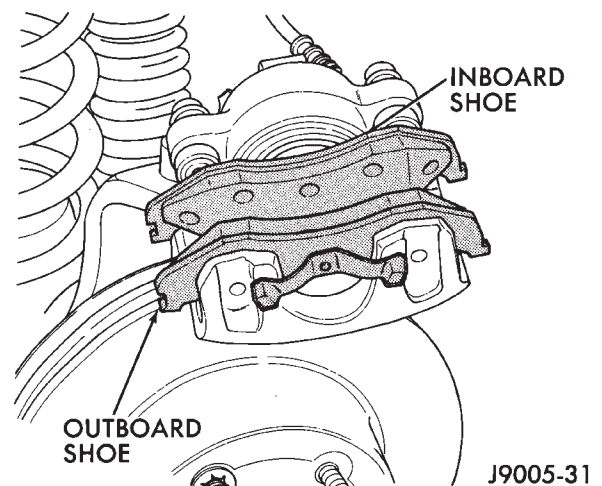

Fig. 6 Caliper Removal
(6) Lift caliper off steering knuckle (Fig. 6).
(6) Verify that locating lugs on outboard shoe are seated in caliper (Fig. 6).